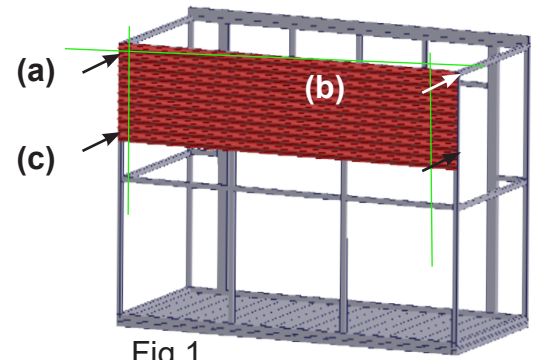

Fig.1
- Next lay all of the floorboards onto the joists. Note, you may need to cut down a floorboard lengthwise to fill the final gap (fig. 1).
- When all of the floorboards are in place, measure the width of the remaining gap and add 3-4mm to ensure a tight fit. Cut the board lengthwise to this measurement (fig. 1).
- Take a 3150mm length rear wall sheet and hold it in position at the top of the back wall. It must be flush with the top of top timber plate and both ends must be flush with the outside of the studs at either end. (Fig. 1)
- Using 1 x 25mm Tek screw, attach one end of the sheet to the frame at the top left hand corner of the sheet **(Fig.1)(a)**. Place the screw approx 25mm in from end of the sheet (the corner flashing will cover the screws).
- Repeat at the top of the sheet at the other end making sure that the cladding is flush with the top of the top plate. **(Fig. 1) (b)**